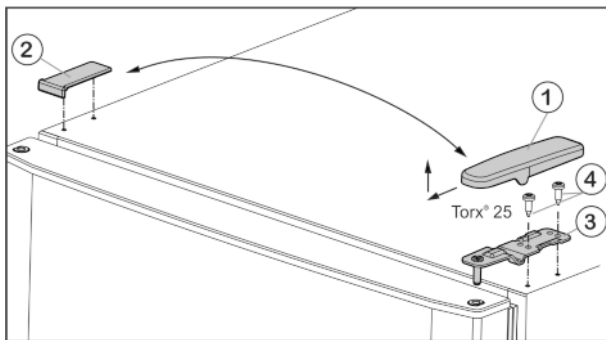

Fig. 6
- ▶ Pull the cover Fig. 6 (1) forwards and upwards.
- ▶ Lift off the cover Fig. 6 (2).
- ▶ Unscrew top bearing block Fig. 6 (3) (2x Torx® 25) Fig. 6 (4) and lift off in upward direction.
- ▶ Install the upper bearing block Fig. 6 (3) on the new hinge side and in the door.
- ▶ Screw in the upper bearing block **tightly (with 4 Nm)** (2x Torx® 25) Fig. 6 (4). Use a cordless screwdriver if necessary.
- ▶ Slide on the cover Fig. 6 (1) on the opposite side from the outside and snap it into place.
- ▶ Slide on the cover Fig. 6 (2) on the opposite side from above until it snaps into place.